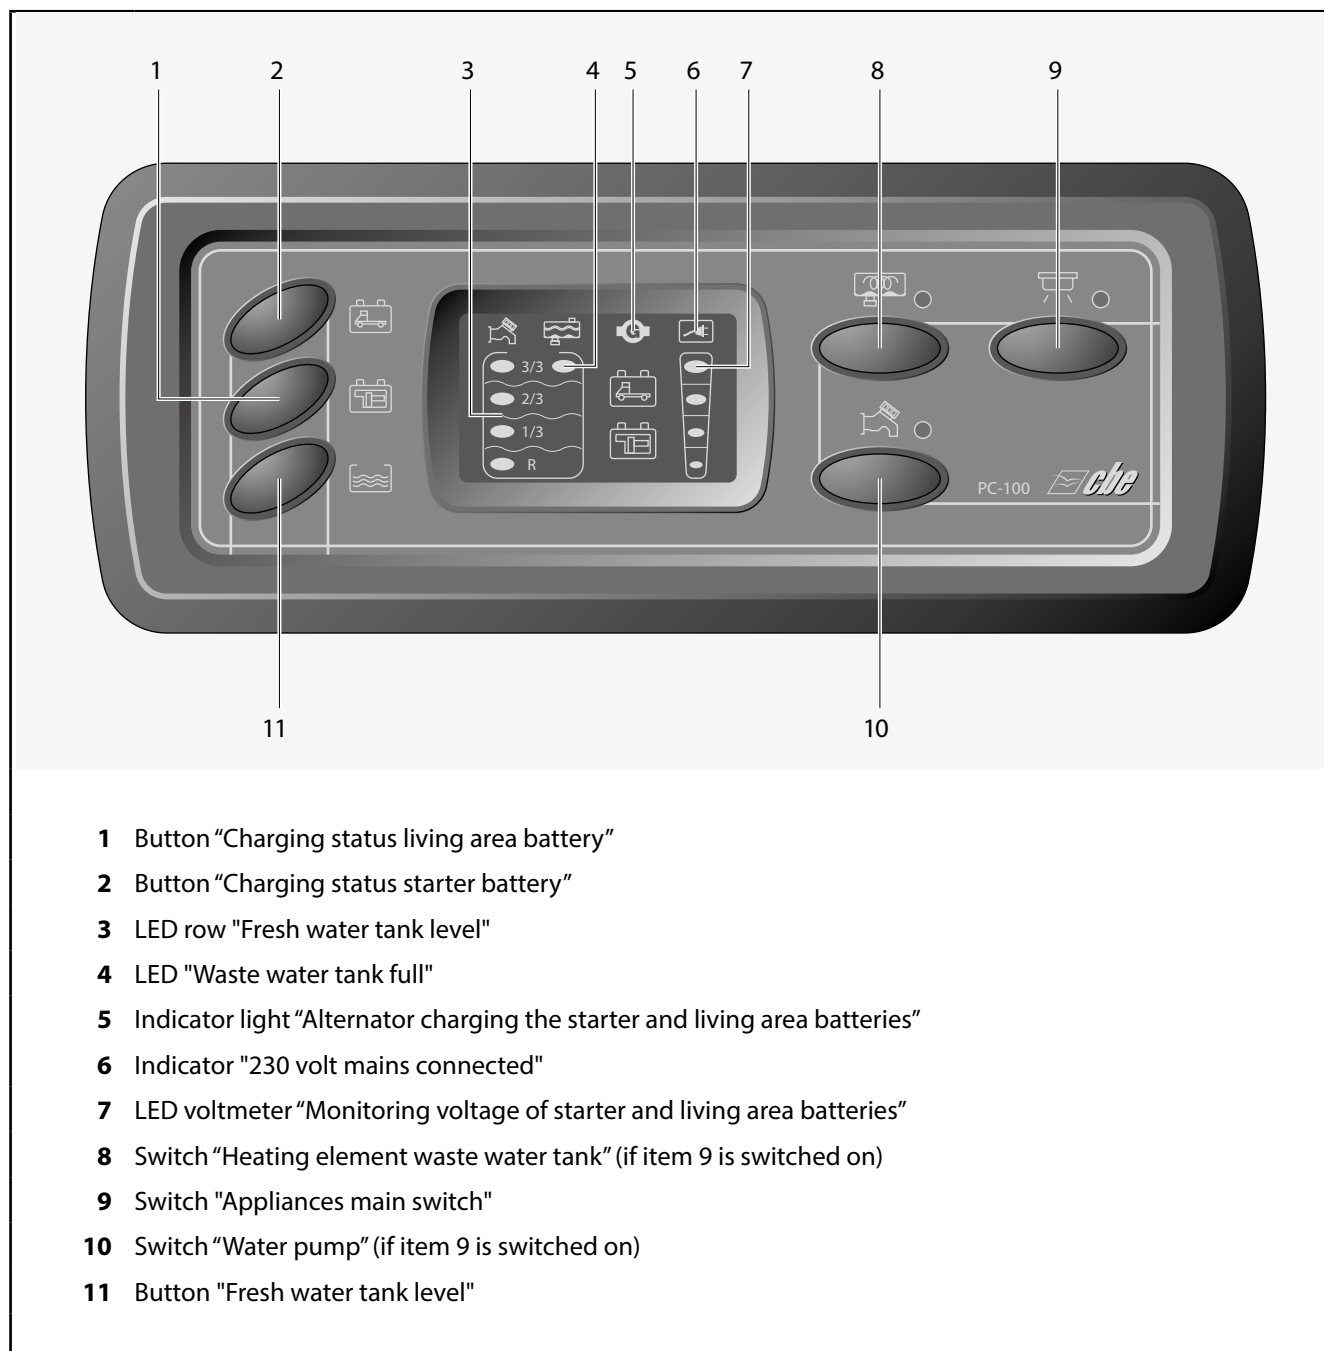

Fig. 66 PC-100 control and switch panel
The installed control and switch panel allows to turn the electrical 12 volt appliances wastewater tank heating (Fig. 66, item 8) and water pump (Fig. 66, item 10) on and off individually by means of the respective switch or together using the 12 volt appliances main switch (Fig. 66, item 9).
Both the charging state of the starter battery (Fig. 66, item 2) and the living area battery (Fig. 66, item 1) as well as the fresh water tank level (Fig. 66, item 3) can be shown on the control and switch panel by actuating the respective button.
Red LED (Fig. 66, item 4) signals a full waste water tank.
Activating the appliance 12 volt main switch (Fig. 66, item 9) for about 1 minute allows switching these appliances on again, then they are switched off automatically again. The appliances are automatically switched on again when the voltage is above 12 volt.